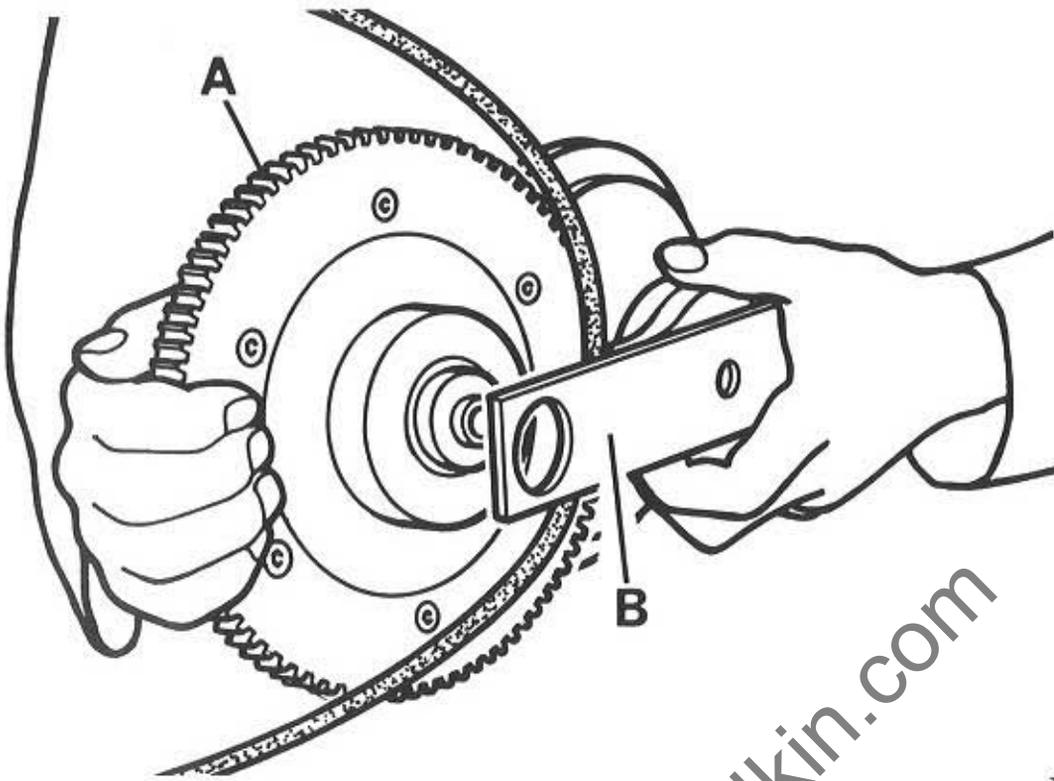

FIG. 10
9. To remove cutterblock drive belt, separate gear "A" from gear mounting bracket "B" as shown in FIG. 10.
1. Replace cutterblock drive belt and re-fit gear "A" in FIG. 10 to gear mounting bracket "B".